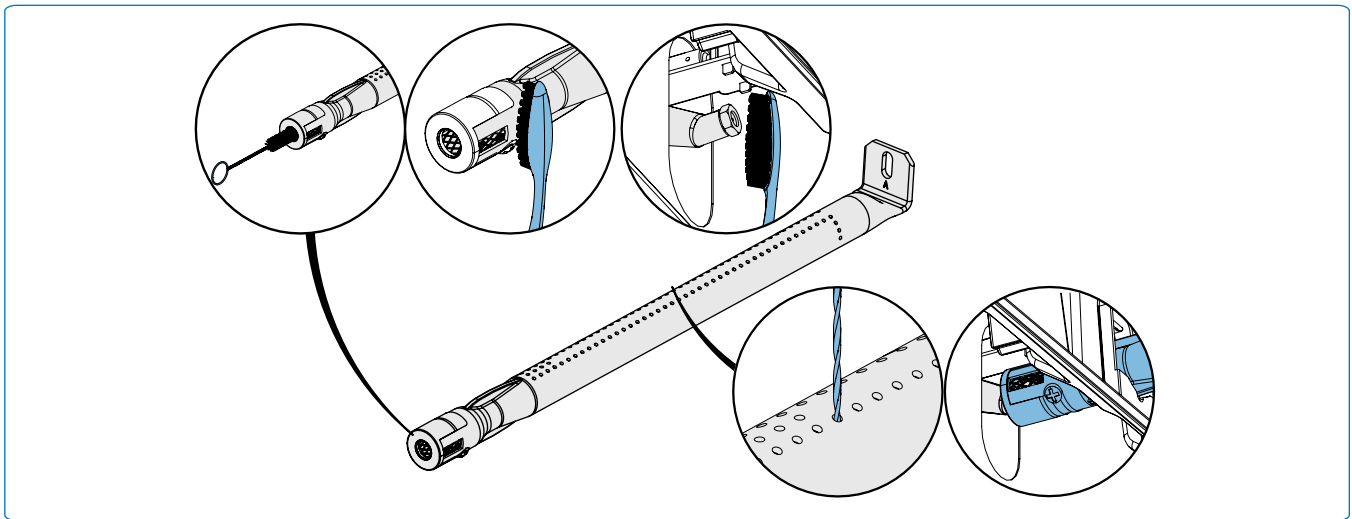

Fig. 16
1. Remove the screw (s) that attaches the burner to the back wall of the grill. Slide the burner back and upwards to remove. **(Fig.16).**